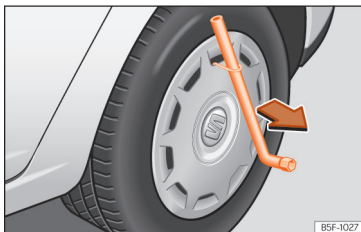

Fig. 237 Remove the wheel cover.
- Insert the box spanner through the hook, rest it on the tyre and remove the wheel trim >>> Fig. 237.